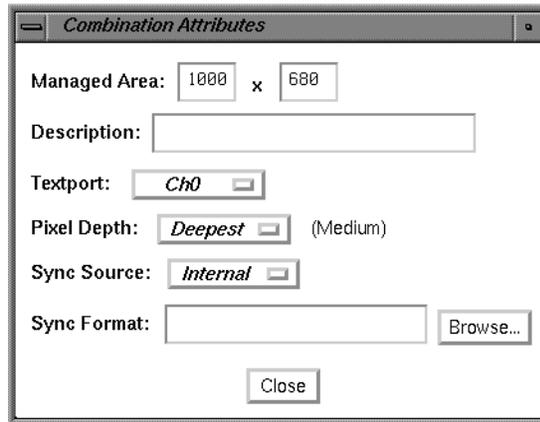

Figure 3-15 Combination Attributes Window Example
2. Change the Managed Area fields at the top of the Attributes window to read 1000 in the left hand box and 680 in the right hand box. See Figure 3-15 for an example of the Attributes window.